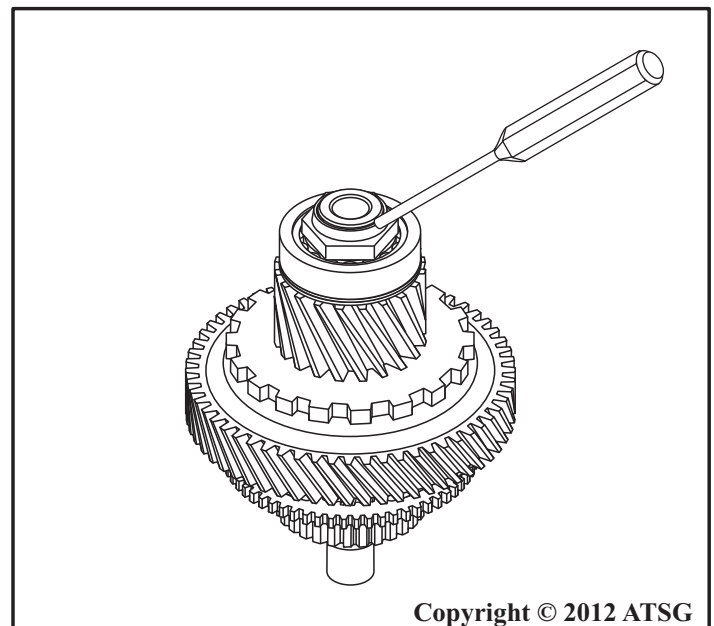

Figure 182
21. Stake the locking nut in place and set completed direct planetary gearset aside for final assembly, as shown in Figure 182.